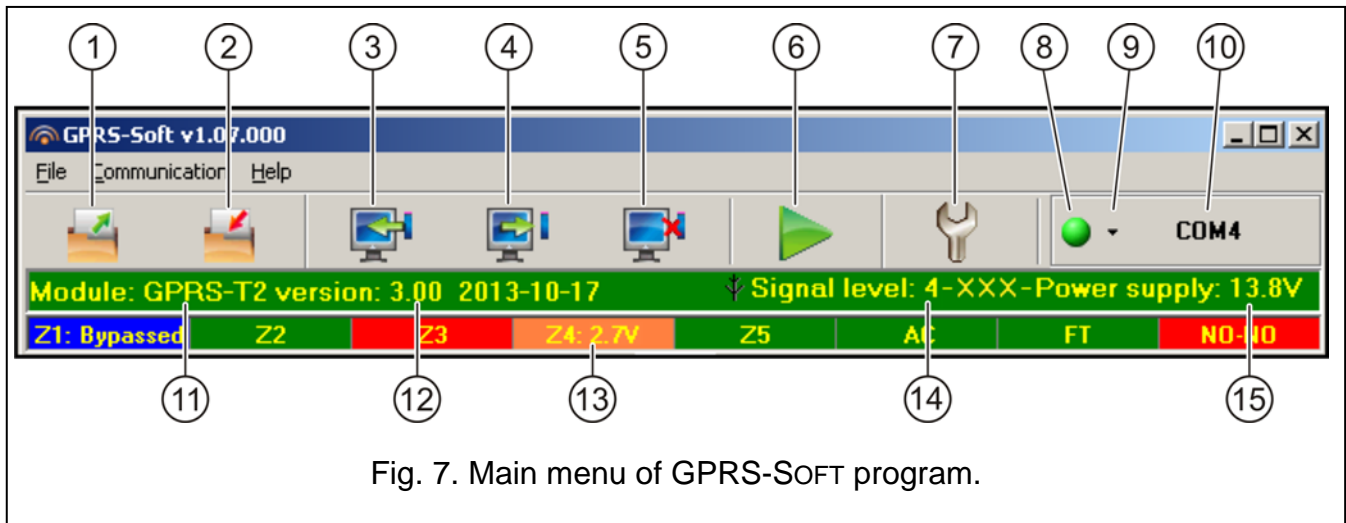

Fig. 7. Main menu of GPRS-SOFT program.
The serial COM port of the computer must be connected with the RS-232 (TTL) port on the module electronics board. The cables for making this connection are available as a set designated DB9FC/RJ-KPL. Indicate in the GPRS-SOFT program the computer COM port to be used for communication with the module. To do so, click on the "Configuration" button (see: Fig. 7 and explanations for the figure) and, in the window that will open, select one of the available computer COM ports. After activation of the selected COM port, the program will establish communication with the module.
2. Click on the "Configuration" button (see: Fig. 7 and explanations for the figure) and, in the window that will open, enter the number of TCP port selected for communication with the module. The number will have to be included in the body of SMS message which will be sent to the module GSM telephone number to initialize communication.
3. Click on the  button (see Fig. 7). In the menu that will open, select "TCP/IP" to activate the server.
Explanations for Figure 7: